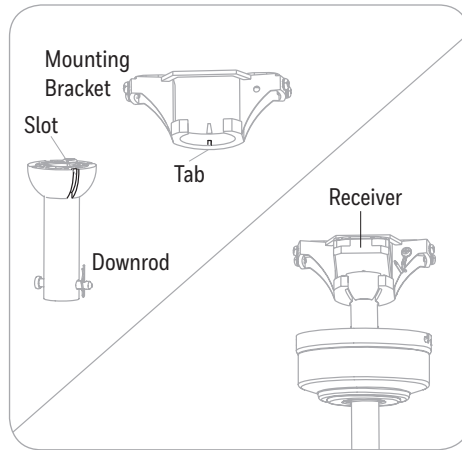

Figure 3.5
5. If you decided to cut back the lead wire in Step 4, strip 1/2 in. of insulation from the end of the white wire. Twist the stripped ends of each strand of wire within the insulation with pliers (not included) (Figure 3.5). If you did not cut back the lead wires in Step 4, Step 5 is not necessary and you may proceed to Step 6.